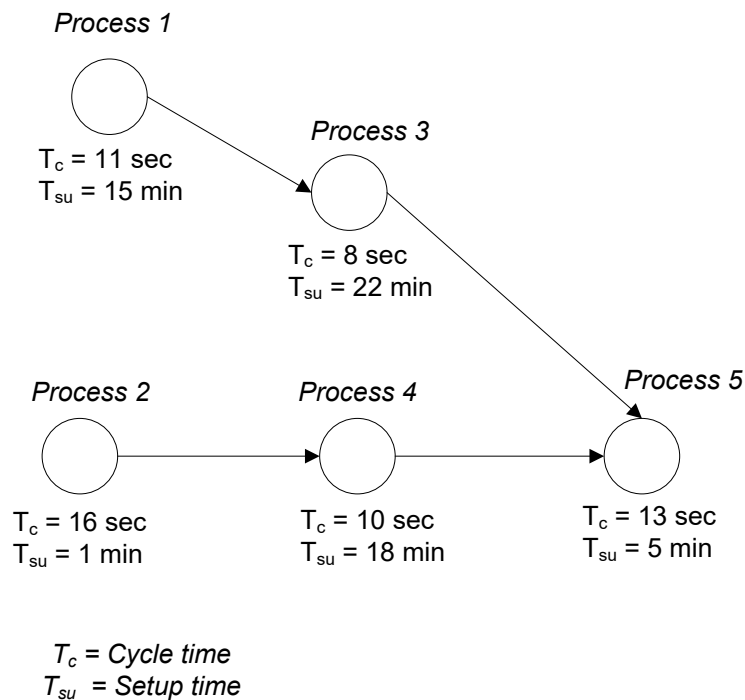

Figure Q1 (a)
1. (a) As shown in Figure Q1 (a), products can be made by going through six processes in a conventional batch of 100 units. The factory is running 8 hours per day and 5 days per week. The management team is debating which processes should be upgraded in order to improve weekly production capacity and production lead time.